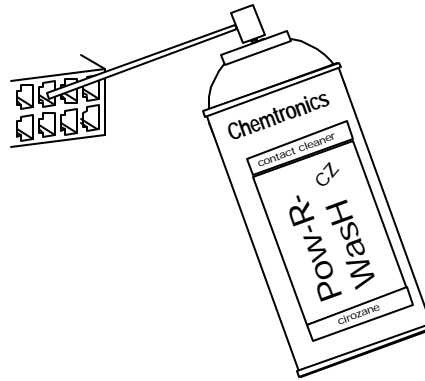

Figure 1
3. **Clean** each terminal using Chemtronics? contact cleaner "Pow-R-Wash CZ " as shown in Figure 1.